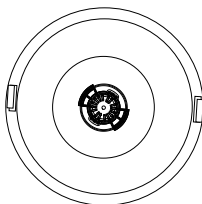

Figure 13.1f
3. Then locate the black plastic Filter Screen at the base of the filter canister, Figure 13.1f.